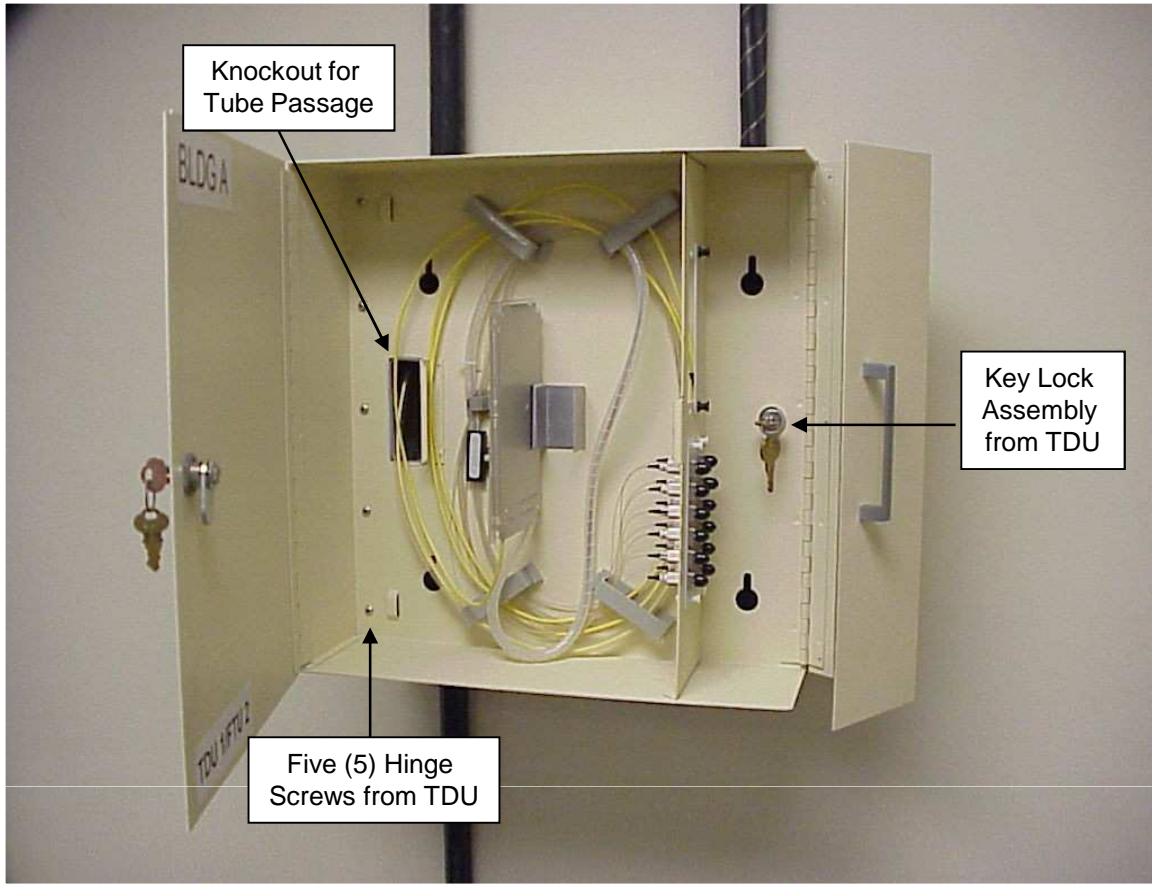

Figure 11
10.4 To accomplish a Tandem-Mount TDU & FTU installation, perform the following steps. **See Fig. 11.**
See Fig. 11.